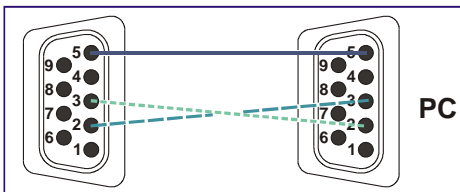

Figure 5: Crossed Cable RS-232 Connection
**Method A (Figure 5)**—Connect the RS-232 9-pin D-sub port on the unit via a crossed cable (only pin 2 to pin 3, pin 3 to pin 2, and pin 5 to pin 5 need be connected) to the RS-232 9-pin D-sub port on the PC.